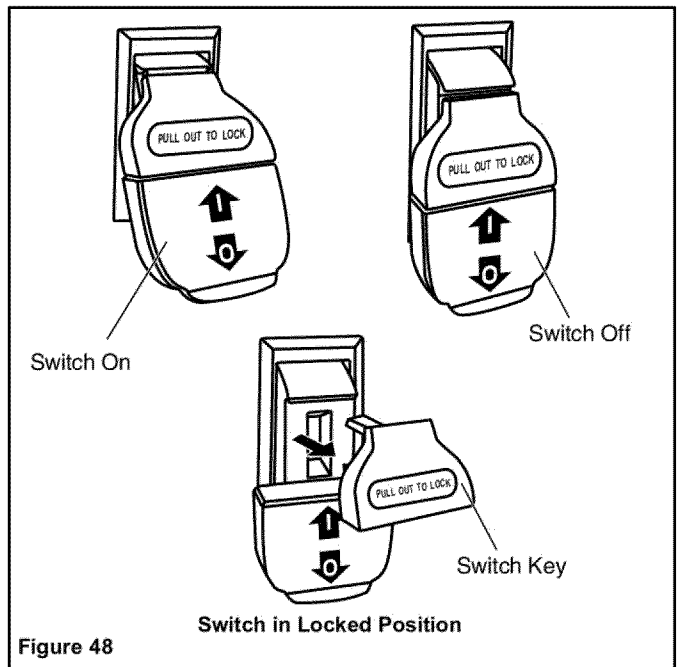

Figure 48
Refer to Figure 48.
**NOTE:** To prevent unauthorized use, remove the switch key as shown in figure 48.